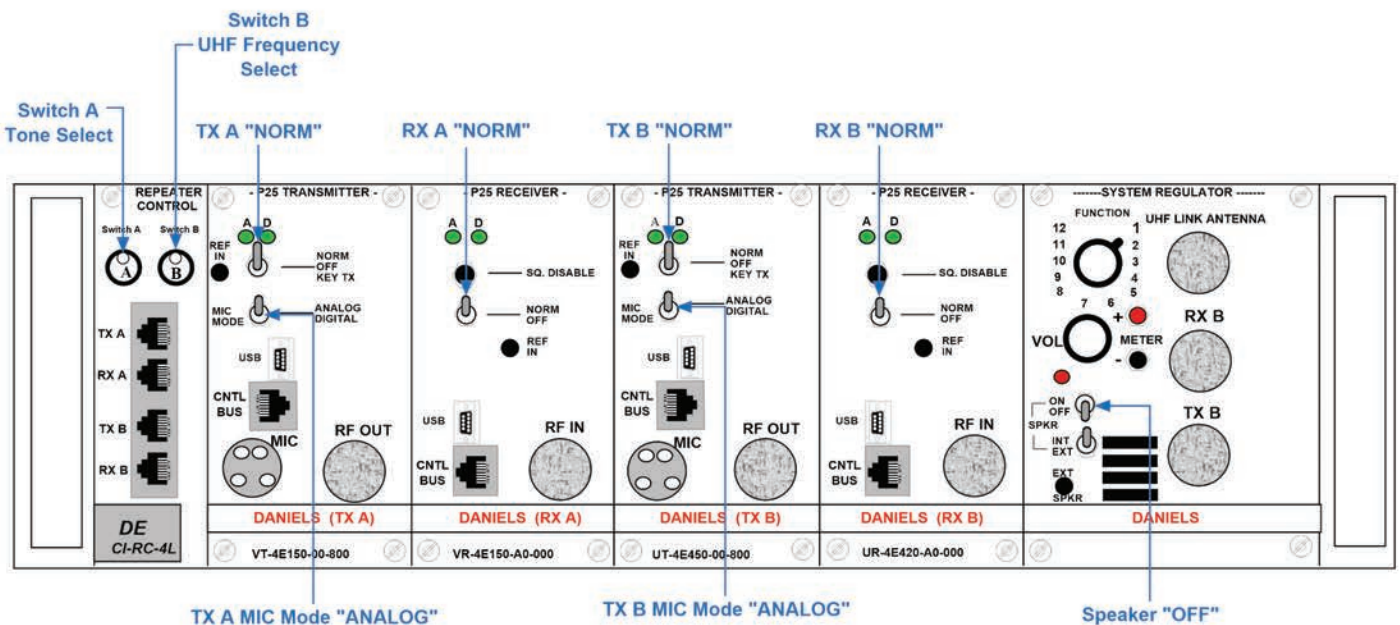

Figure 6:
- **See the Tone Selection List on page 129. "Straight UP" is Position 1. (See Figure 6)**
- **See the UHF Frequency Selection List on page 129. "Straight UP" is Position 1. (See Figure 6)**